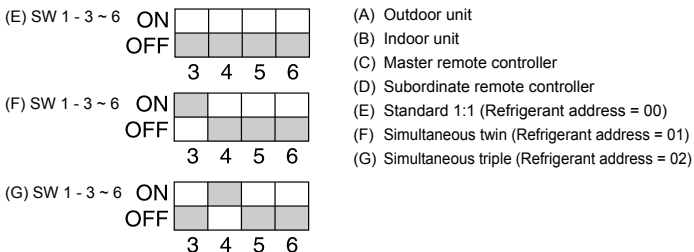

Fig. 10-1
(1) Supply power (circuit breaker).
(2) After the gas stop valve is closed, set the SWP switch on the control board of the outdoor unit to ON. The compressor (outdoor unit) and ventilators (indoor and outdoor units) start operating and refrigerant collecting operation begins. LED1 and LED2 on the control board of the outdoor unit are lit.
(3) Because the unit automatically stops in about two to three minutes after the refrigerant collecting operation (LED1 and LED2 are lit), be sure to quickly close the gas stop valve. When LED1 and LED2 are lit and the outdoor unit is stopped, open the liquid stop valve completely, and then repeat step (2) after three minutes have passed.
(4) Turn off the power supply (circuit breaker).
10. System control (Fig. 10-1)